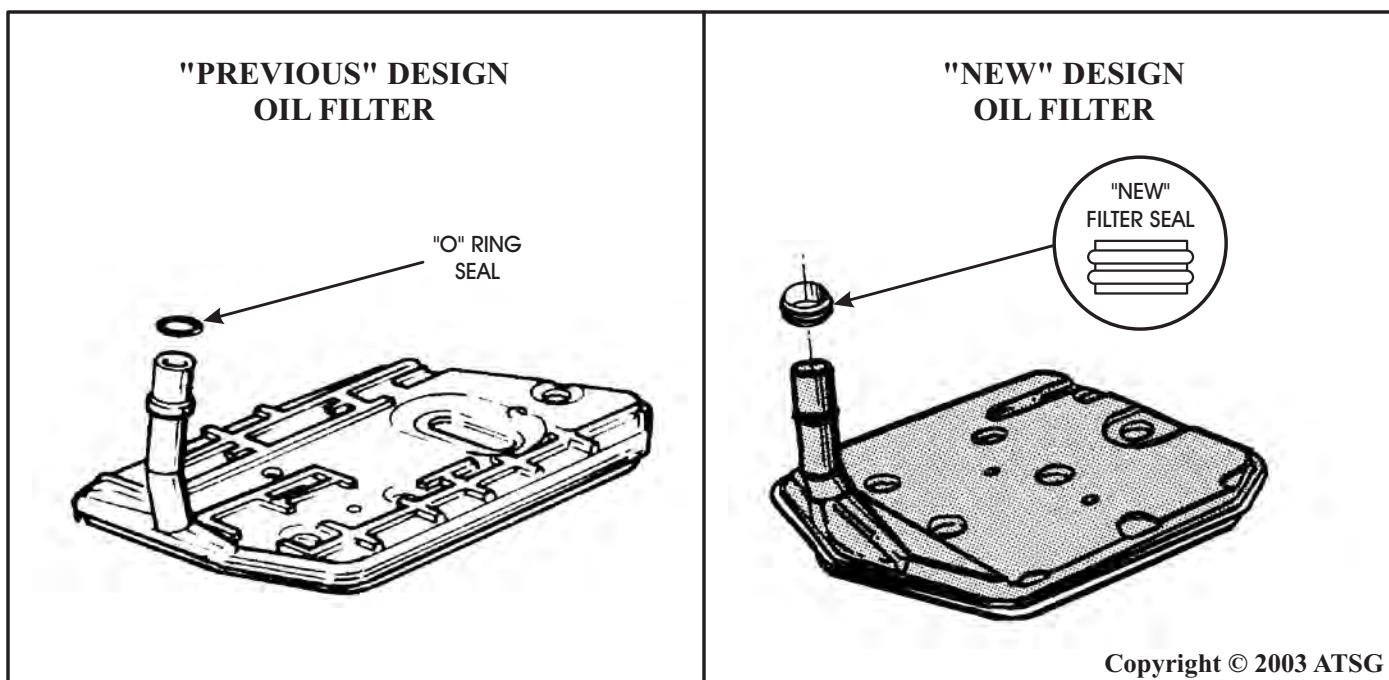

Figure 52
CHANGE: Beginning on July 6, (Julian Date 187) 1987, there was a new oil filter and oil filter seal that went into production on all models of the THM 700-R4, as shown in Figure 52.
- (1) OIL FILTER - The new design filter is wider, has a felt media type element in place of the previous screen, and is bottom suction instead of top suction, as shown in Figure 52.
- (2) OIL FILTER SEAL - The new design seal is two rubber lips molded to a steel sleeve and the seal is glued onto the filter neck, as shown in Figure 52.